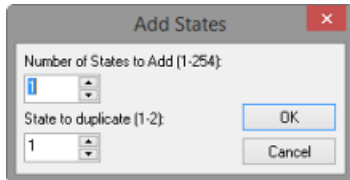

FIG. 364 Add States dialog
3. Select **Button > Add States** to open the *Add States* dialog (FIG. 364):